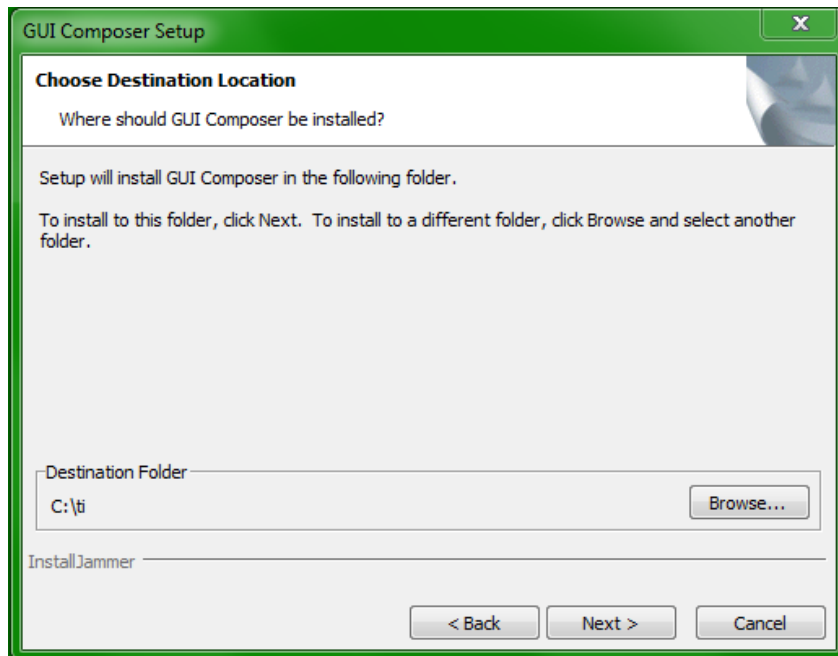

Figure 2 - Destination Folder
- b. Recommended to keep default destination location (Figure 2)